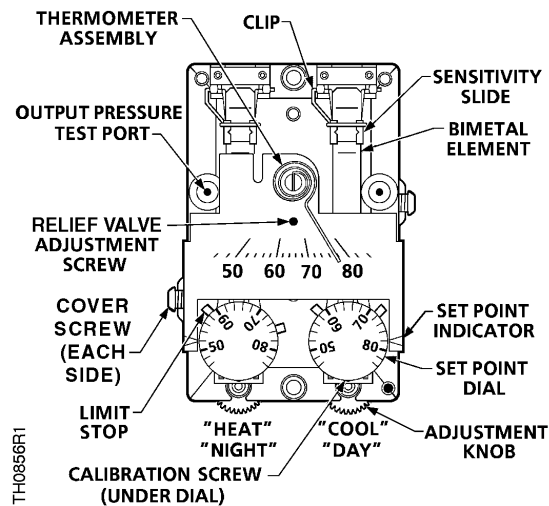

Figure 19. Free Energy Band TH193 HC Hesitation Thermostat Details.
3. Place a screwdriver in the center of the thermometer assembly (see Figure 19). Carefully rotate the thermometer assembly until the pointer tip indicates the correct room temperature.
The factory thermostat sensitivity setting is approximately 2.5 psi/°F (31 kPa/°C). To change the sensitivity, use a flat-blade screwdriver to carefully move the sensitivity slide (see Figure 19) to the desired position as follows:
2. Use a needle nose pliers to pull the limit stop tab (see Figure 19).
The output pressure test port (see Figure 19) is accessible without removing the thermostat cover through the eighth opening:
5. Moisten the needle and insert the test gauge and needle adapter in the test port (see Figure 19). Read the control pressure.
6. If the control pressure does not read the required dead band output pressure, turn the calibration screw (see Figure 19) using the Cover screw and calibration wrench or a 1/8-inch wrench as follows:
3. Moisten the needle and insert the test gauge and needle adapter in the output pressure test port (see Figure 19). Read the control pressure.
2. Adjust the relief valve using the Cover screw and calibration wrench until the control pressure is at the dead band output pressure (see Figure 19):
Use the Dual Scale Pressure Gauge and Pressure Tap Needle to measure the control pressure at the output test port (see Figure 19). The output pressure test port is accessible without removing the thermostat cover through the eighth opening from the top.